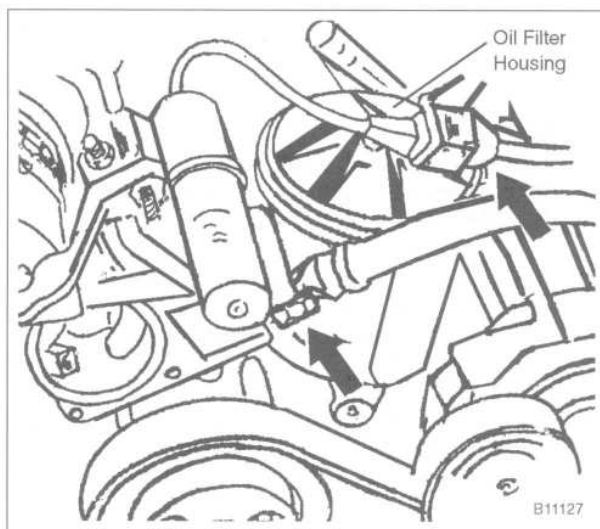

Fig. 14. VANOS solenoid connector and oil supply line banjo bolt (arrows).
24. On 1993 and later cars, disconnect the harness connector from the VANOS solenoid at the front of the cylinder head. Remove the oil line fitting at the bottom of the VANOS control unit. See Fig. 14.